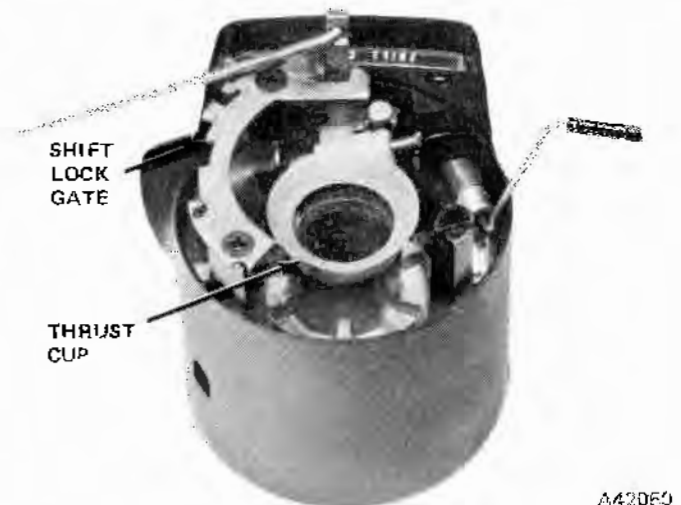

Fig. 11-11 Thrust Cup Position
(21) Remove thrust cup from upper housing (fig. 11-11).
(9) Install nylon thrust cup in upper housing with flared end facing out (fig. 11-11).